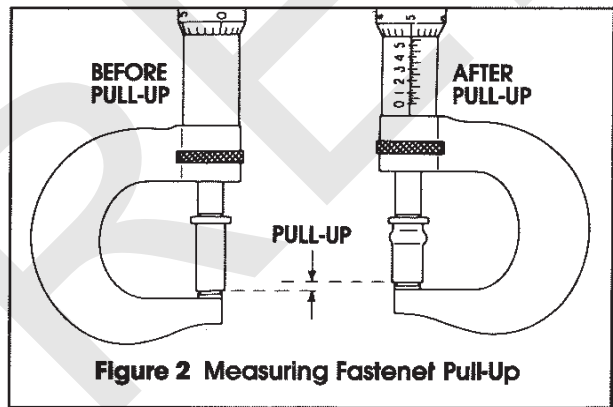

Figure 2 Measuring Fastener Pull-Up
1. After stud is installed and anvil adjustment is completed, measure and record overall length of the fastener. (Figure 2)
3. Loosen set screw (8) and turn adjusting nut (9) in until a definite stop is felt; then back adjusting nut (9) out one complete turn. This adjustment will provide a slight upset of the fastener (approximately .083").
5. Remove fastener and measure overall length of pulled up fastener (Fig. 2).